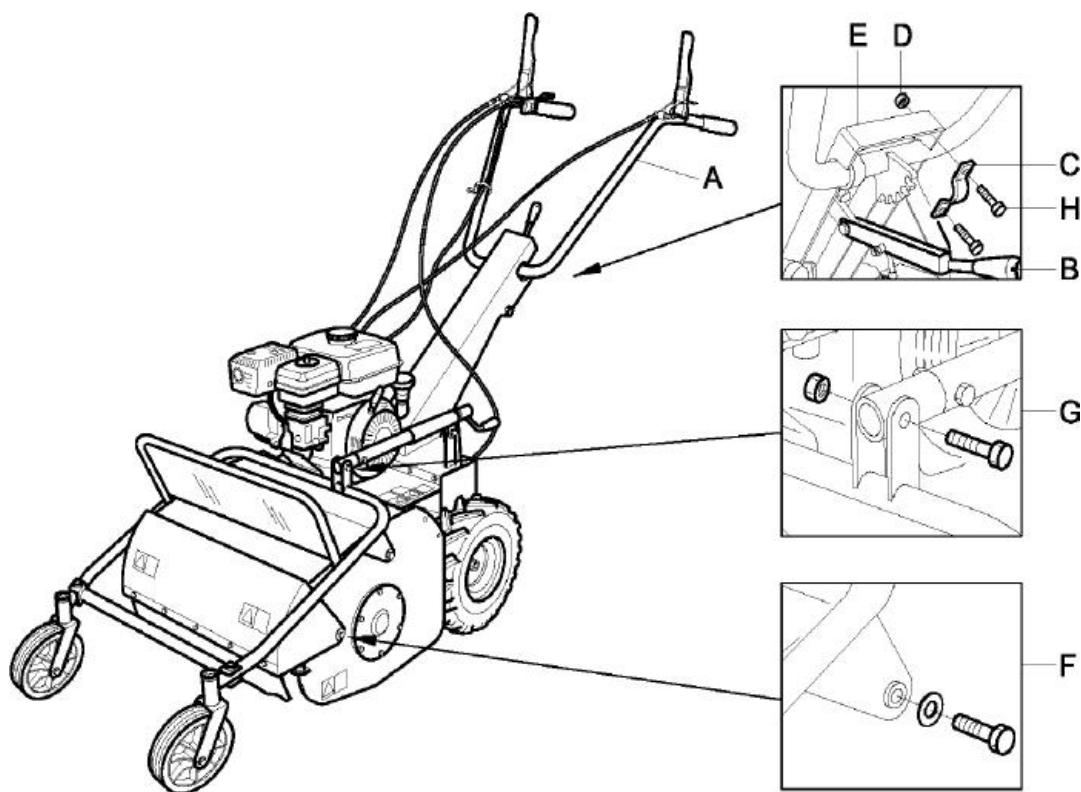

Figure 2
- Lift the handlebar (Fig. 2 ref. A) and insert it in the support shown in Fig. 2 ref. E.